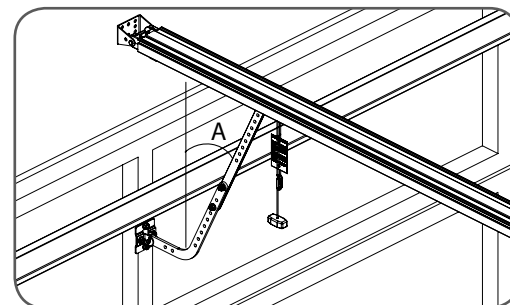

fig 18
- Connect the assembled arm to the bracket and the disengaged trolley with clevis and snap pins. The angle "A" must be more less than 10° (**Fig. 18**).